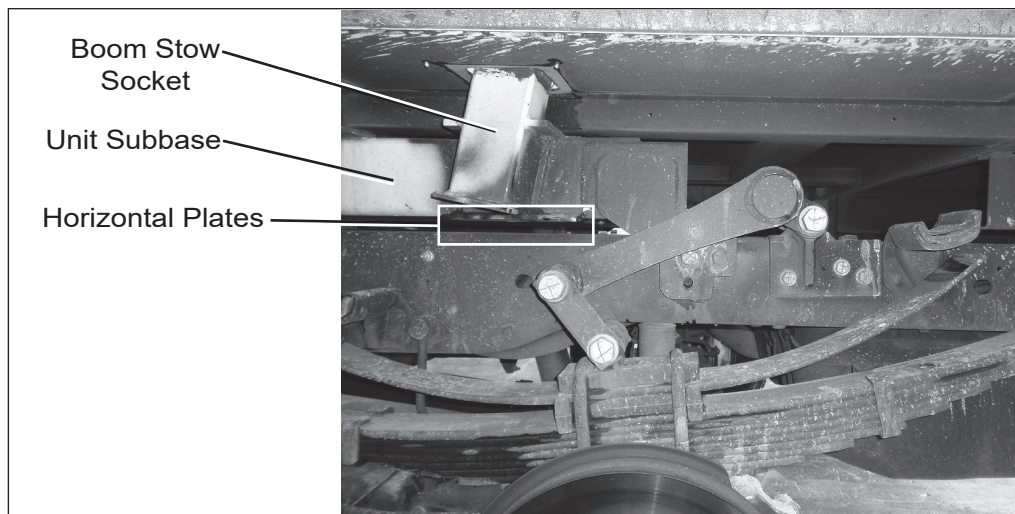

Figure 2 – View of Street Side Wheel Well
11. Locate the boom stow socket on the side of the subbase in the street side rear wheel well. Locate the horizontal plate under the boom stow socket (refer to Figure 2).